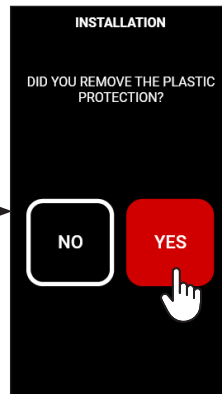

fig.10
- Confirm the message displayed on the screen by clicking YES (only after removing the plastic protection) (Fig.10);